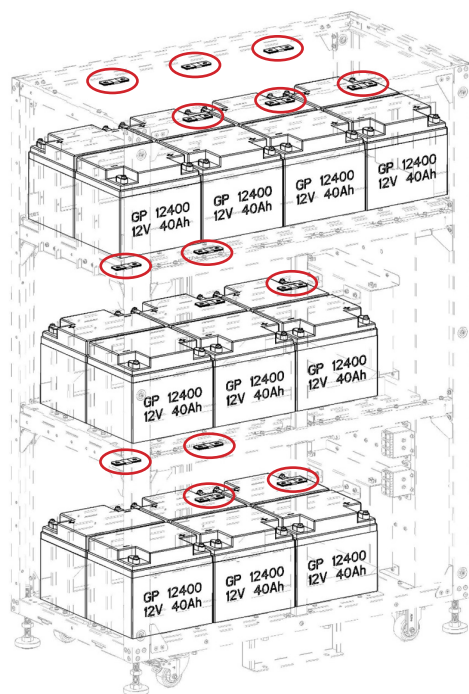

Figure 5-40
10. Install the copper bus bars (13 pieces) between adjacent batteries and battery insert bolts/posts (Figure 5-40).